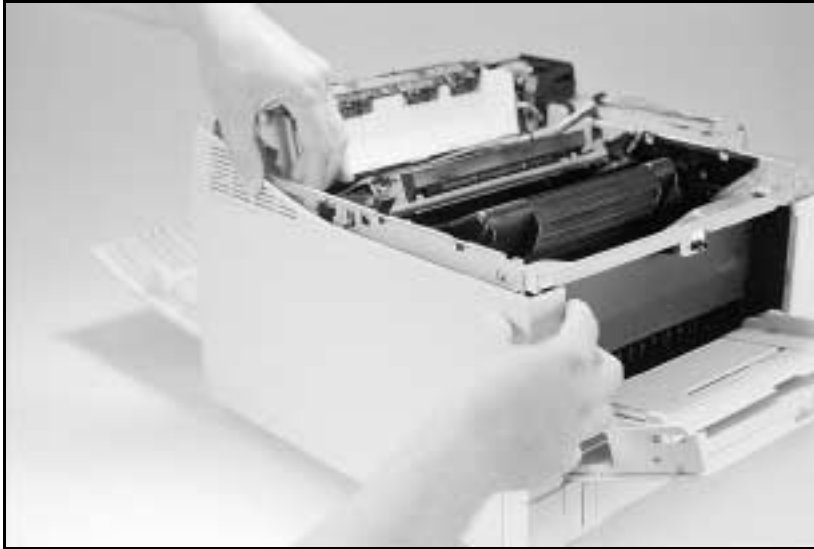

Figure 6-5 **Left Side Cover Latches**
- 2** Release the 2 latch points on the Left Side Cover (front latch first) see Figure 6-5. The latches are on the inside of the Left Side Cover.